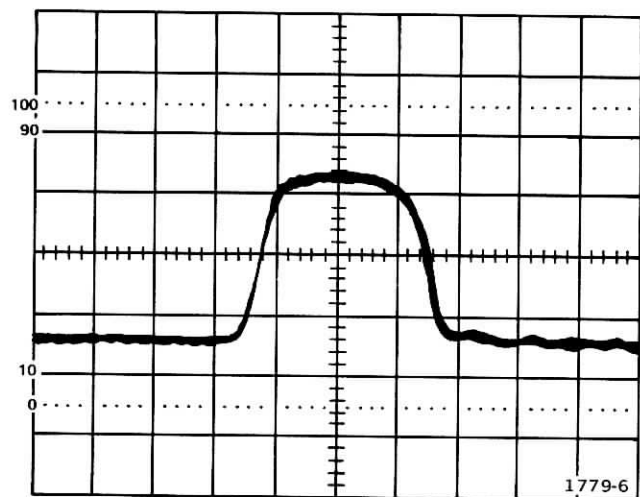

Fig. 6-11. Current waveform when high-speed timing is correctly adjusted.
- g. **ADJUST**—C1253, C1233, R1179, R1185, and R1175 for a symmetrical, flat-top waveform similar to that in Figure 6-11.